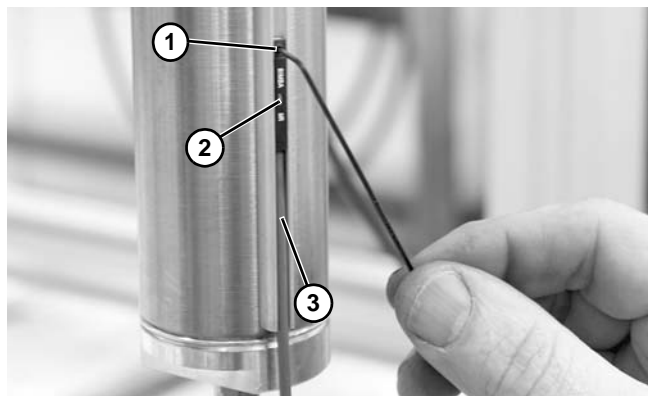

Figure 57
1. To adjust cylinder stroke sensors, loosen set screw (**Figure 57, item 1**) and move sensor (**Figure 57, item 2**) up or down in channel (**Figure 57, item 3**). Tighten set screw.